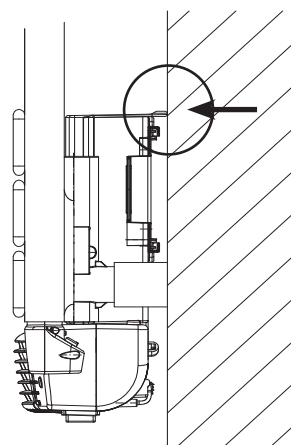

Fig. 6
The radiator must be fixed to the wall and adjusted so that the fan heater is against the wall as shown in the figure (figure 6). Do not adjust the radiator in such a way that a towel can be inserted between the wall and the filter. This could block the air intake, causing the heater to overheat and the “FILTRE” light to come on.
With the 60 mm screws (F1), fix the two 85 mm long top supports (A) to the wall with the hole facing upwards and the 53 mm long bottom supports (A) with the hole facing downwards (see figure 6).